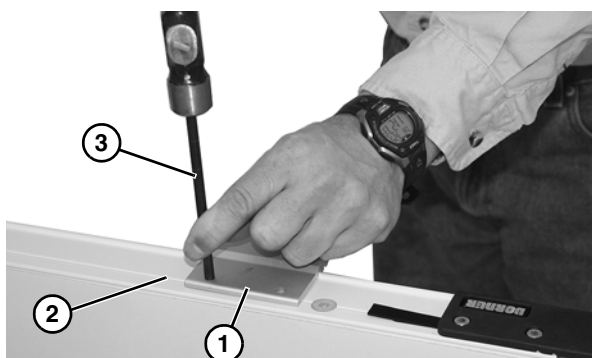

Figure 9
1. Locate and hold bracket (Figure 9, item 1) to side rail. Hole should line up with notch (Figure 9, item 2) in side rail. Mark the hole locations with a center punch (Figure 9, item 3) and remove the bracket.